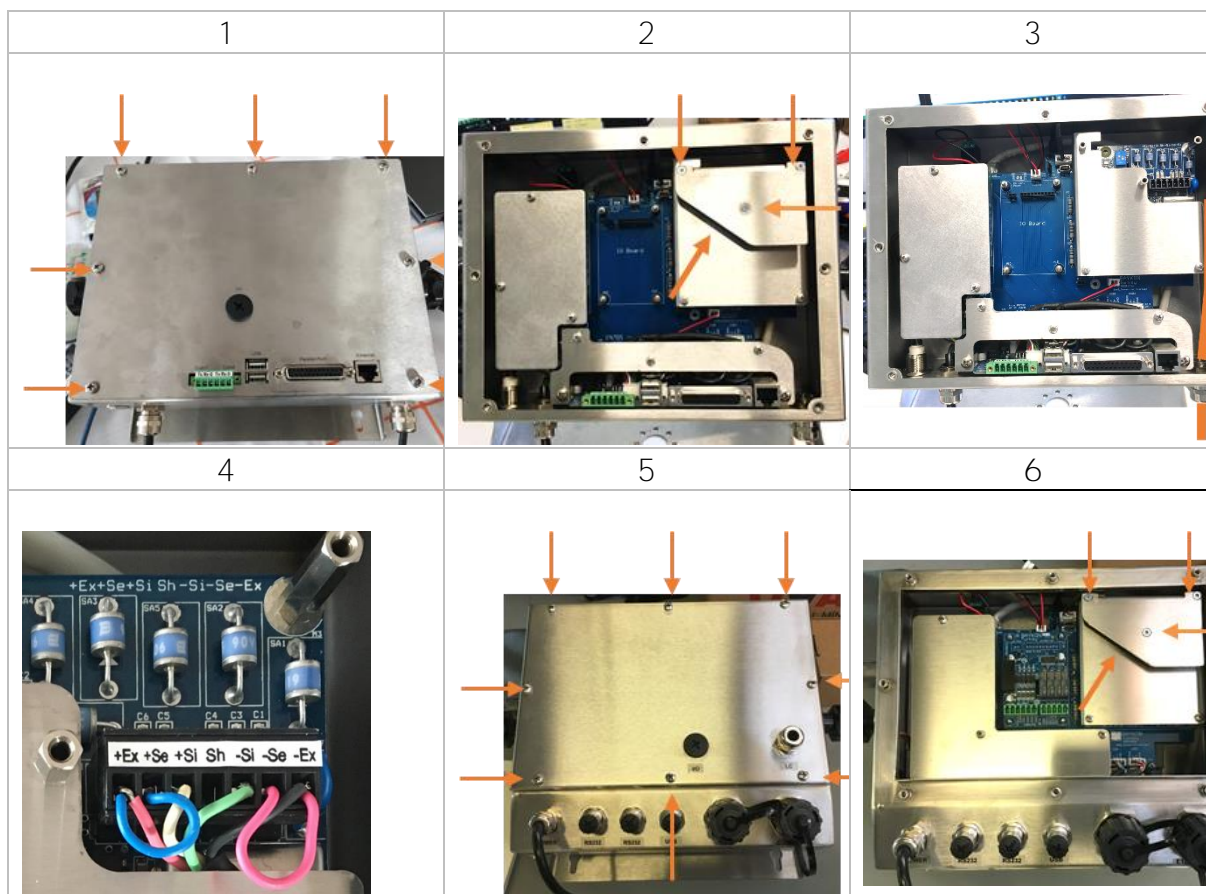

Figure 3-7
1. Open the FT-150 Truck rear plate by removing the 7 screws as shown in Figure 3-7/1.
2. To remove the plate covering the load cell connector, remove the 3 screws marked in Figure 3-7/2.
3. Install the load cell cable through the gland towards the load cell terminal, as shown in Figure 3-7 /3.
4. Connect the load cell cable to the load cell terminal, as shown in Figure 3-7/ 4.
1. Open the FT-150H Truck rear plate by removing the 8 screws as shown in Figure 3-7/5
2. To remove the plate covering the load cell connector, remove the 3 screws marked in Figure 3-7/6.